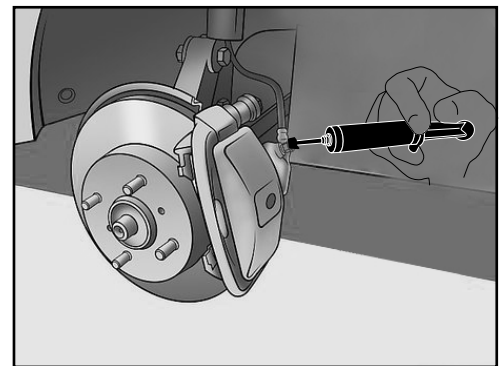

Figure 4
- 4) Apply anti-seize to the brake bleed nipples before and after the brake bleeding procedure to eliminate the possibility of seized or broken nipples when the brakes are next bled. (Figure 4)